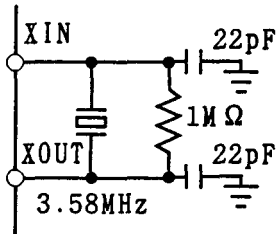

Fig.3
- Crystal resonator , resistor and capacitors should be connected as shown Fig.3 for on-chip oscillator operation.